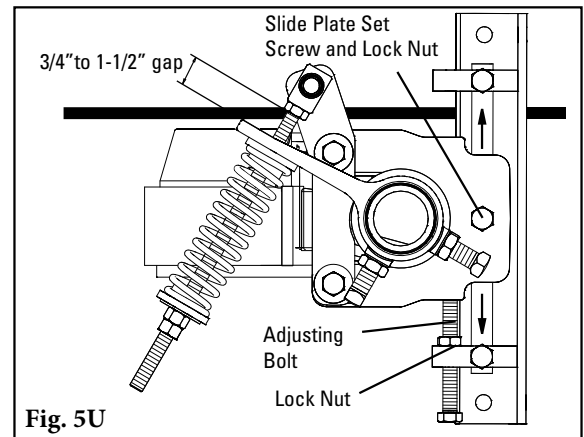

Fig. 5U
- Loosen slide plate set screws and lock nuts. Adjust by turning adjusting bolts either up or down (Fig. 5U).
- Please note, when fully tensioned there should be approximately 3/4" to 1-1/2" of space between the torque arm and pivot block (Fig. 5U).